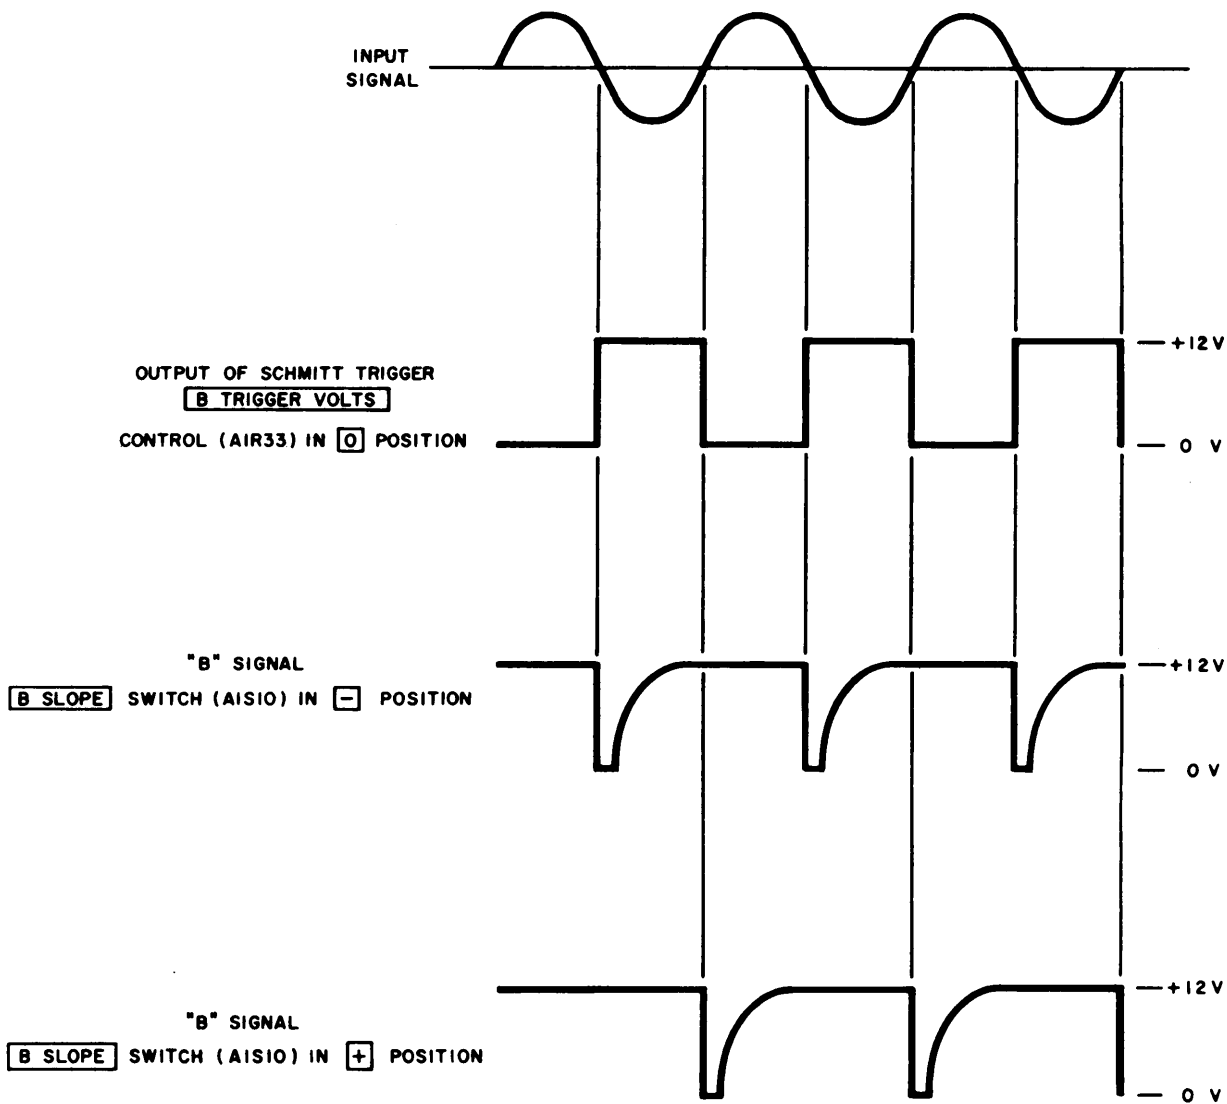

Figure 4-7. "B" Amplifier, Trigger Point Waveforms
The output of the Schmitt trigger is applied to AND gate AG7 and to inverter INV5 consisting of A1A11Q7. The output of the inverter is applied to another AND gate, AG6. Both AND gates are controlled by the B SLOPE switch A1S10. When this switch is set to +, the output of the Schmitt trigger is capacity-coupled through AG7 to the output inverter INV8 consisting of A1A11Q8. When the B SLOPE switch is set to -, the output of INV5 is capacity-coupled through AG6 to INV8. The two AND gates and the B SLOPE switch have the effect of selecting either the positive or negative slope of the input waveform for ultimately triggering the output inverter. Figure 4-7 shows the relationships of a typical sine-wave input signal to the amplifier output for all variations of trigger level polarity and slope selection.
c. USEFUL ILLUSTRATIONS. - Illustrations useful in maintaining this functional section are: figures 4-7, 4-8, 5-8, 5-9, 5-11, 5-46, and 5-64.
controlled by the C SLOPE switch A1S12. When this switch is set to +, the output of the Schmitt trigger is capacity-coupled through AG15 to the output inverter INV8 consisting of A1A11Q16. When the B SLOPE switch is set to -, the output of INV13 is capacity-coupled through AG14 to INV8. The two AND gates and the C SLOPE switch have the effect of selecting either the positive or negative slope of the input waveform for ultimately triggering the output inverter. The relationships of a typical sine-wave input signal to the amplifier output signal for all variations of trigger level polarity and slope selection are identical to those shown for the B amplifier in figure 4-7.